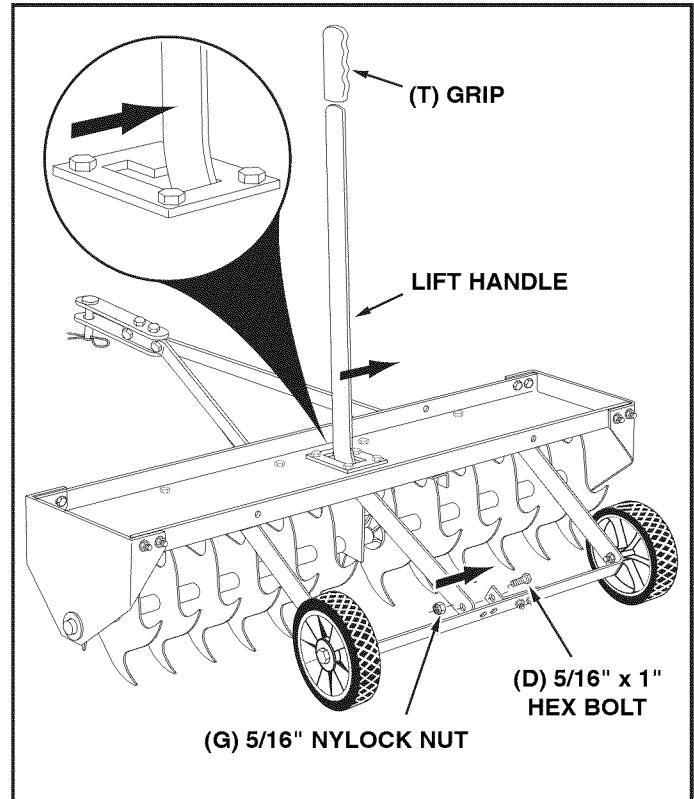

FIGURE 15 REAR VIEW
25. Assemble the lift handle through the tray and attach it to the hitch arm mount bracket assembled to the axle bracket. Use a 5/16" x 1" hex bolt (D) and a 5/16" nylock nut (G). **Tighten.** See figure 15.
26. Position the hitch arm mount bracket so that there is side tension on the lift handle when it is locked in the up position. **Tighten** the nuts. See figure 15.
27. Assemble the grip (T) onto the end of the lift handle. See figure 15.